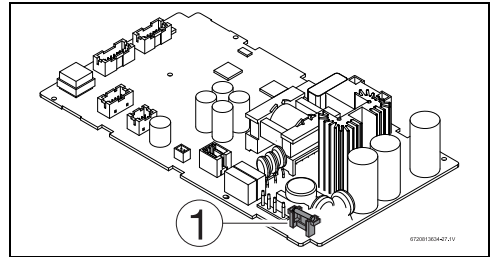

Fig. 37 Fuse position
- Check the fuse on the printed circuit board, for electrical continuity, see fig. 37, [1].